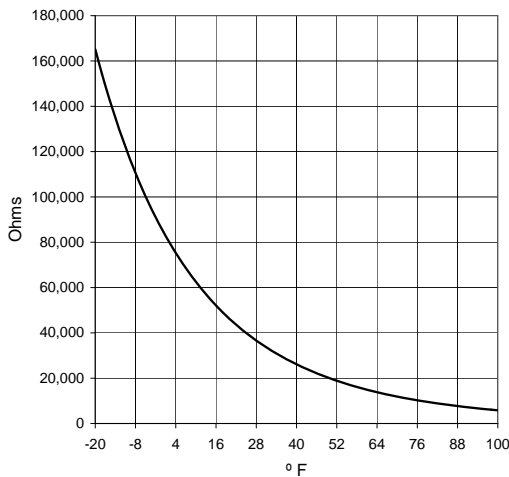

Figure 6-9 Right Side & Cabinet Temperature Sensor
2. Remove the dispense rate adjuster knob located below the header panel. (Refer to Figure 6-9)
The temperature control sensor is a thermistor used to sense the temperature of the suction line. As the suction line temperature increases, the internal resistance of the thermistor will decrease. Figures 6-9 and 6-10 show the relationship between sensor resistance and temperature.